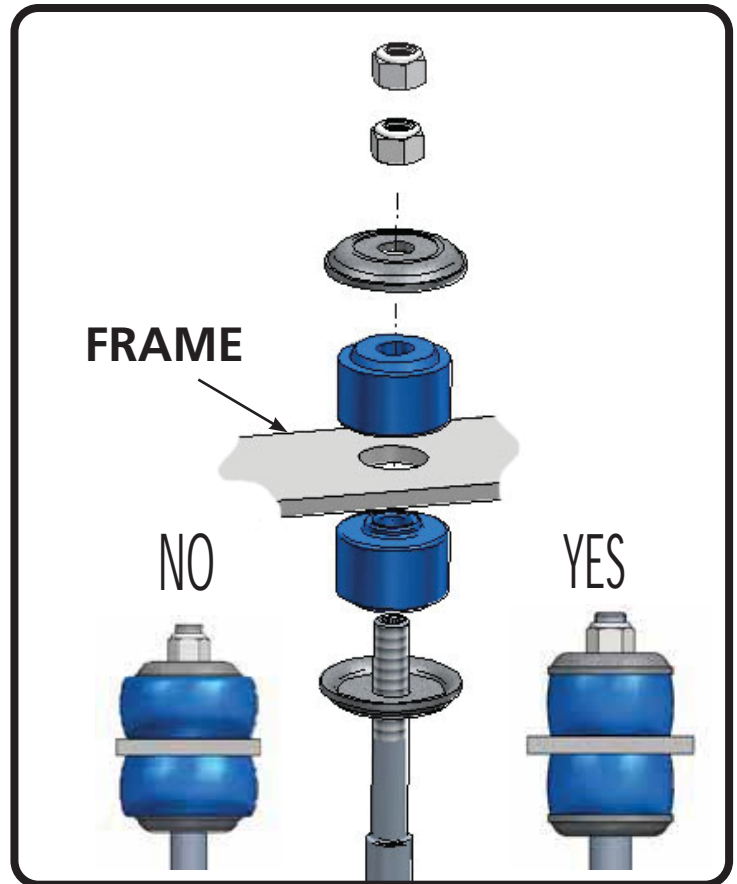

Figure 1
**1.** With the OEM shock removed, install the Ridetech shock. Remove the adjuster knob by loosening the set screw using the supplied Hex Key. Install a Bushing Support Washer on to the shock shaft followed by a Shock Stem Bushing (Figure 1).
**NOTE:** The Bushing should be tight, but not to the point that the bushing is bulging past the Support Washer (Figure 1).